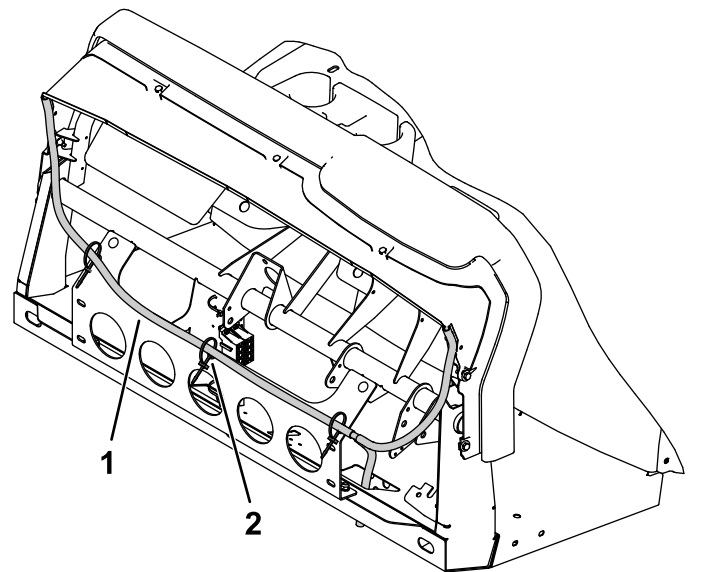

Figure 43
5. Starting from the passenger's side, route the connected clear tube down through the floor board (with the clutch pedal) to the driver's side of the machine (Figure 43).
6. Secure the connected clear tube with the 3 magnetic tie-wrap mounts and 3 cable ties (Figure 43).